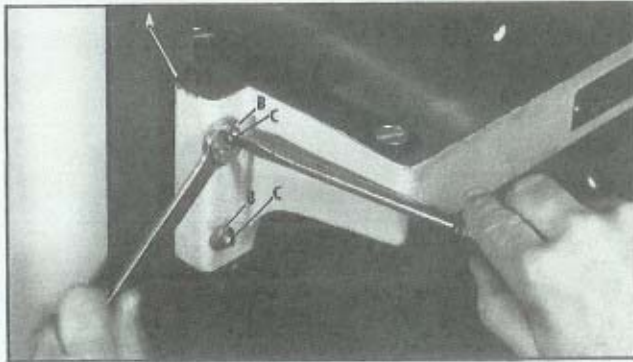

Fig. 19.
As the table raises and lowers, the table gib (A) Fig. 19, bears against the machined surfaces. Over a long period of time, these surfaces will wear. To compensate for this wear, the gibs must be adjusted.
2. Loosen locknuts (B) Fig. 19, and slightly tighten each screw (C) until the table can be moved without undue effort and there is no perceptible play between the table and column. Then tighten lock nuts (B).
3. If extra effort is required to move table, the gibs may be too tight. Loosen lock nuts (B) and loosen adjusting screws (C) until correct movement of the table is obtained and tighten lock nuts (B) Fig. 19.